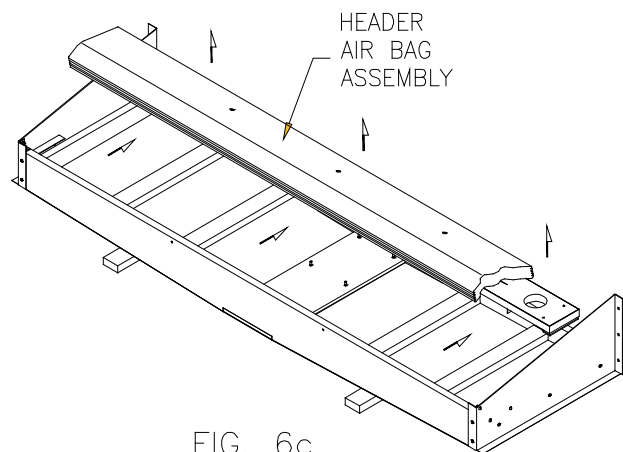

FIG. 6c
d. Slide head air bag assembly off the header bag brackets (Fig. 6c).